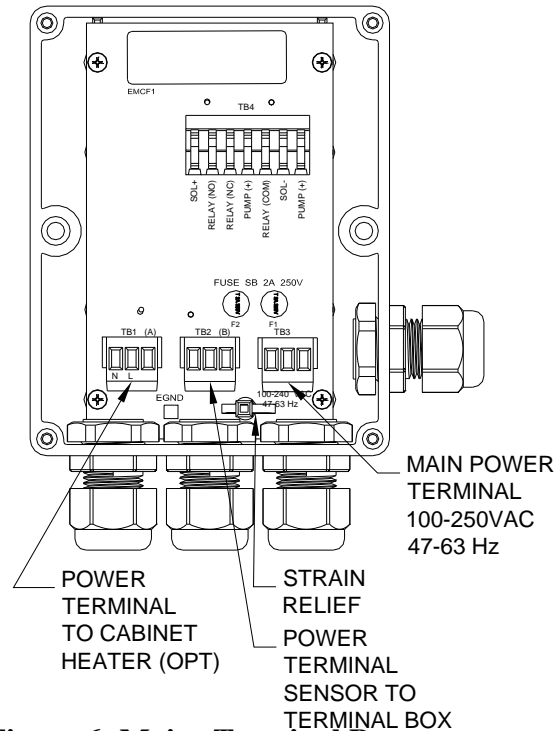

Figure 6: Mains Terminal Box
The electrical connections to the instrument are made through the two terminal boxes. The connections are labeled within the terminal boxes and are self-descriptive (see Figures 6 & 7). Please follow all local and government recommendations and methods for installation of electrical connections to and between the instrument and other peripheral devices.
3.3.1 Power: All mains connections are made in the mains terminal box. The instrument is equipped with a 100-240 VAC, 47-63 Hz switching power supply; please verify that the line voltage falls within these specifications. It is recommended that a circuit breaker be placed prior to the power connection to allow for service. While making connections, refer to Figure 6. The AccUView Wastewater is supplied with a power cord for 120 VAC which is UL and CSA approved.